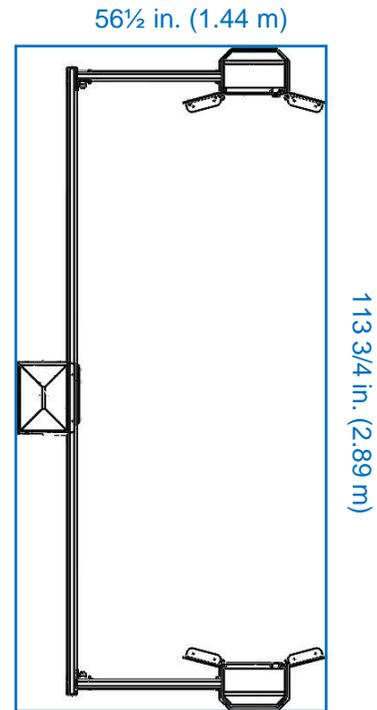

Figure 29
- ♦ The foundation must be levelled with a maximum tolerance of 1 in. (2.5 cm) over a 113 3/4 in. (2.89 m) by 56 1/2 in. (1.44 m) rectangle (Figure 29). Refer to *Frame dimension and foot print section* for information on minimum base size. The annual variation in levelness for the same area cannot exceed 1/4 in. (6 mm).